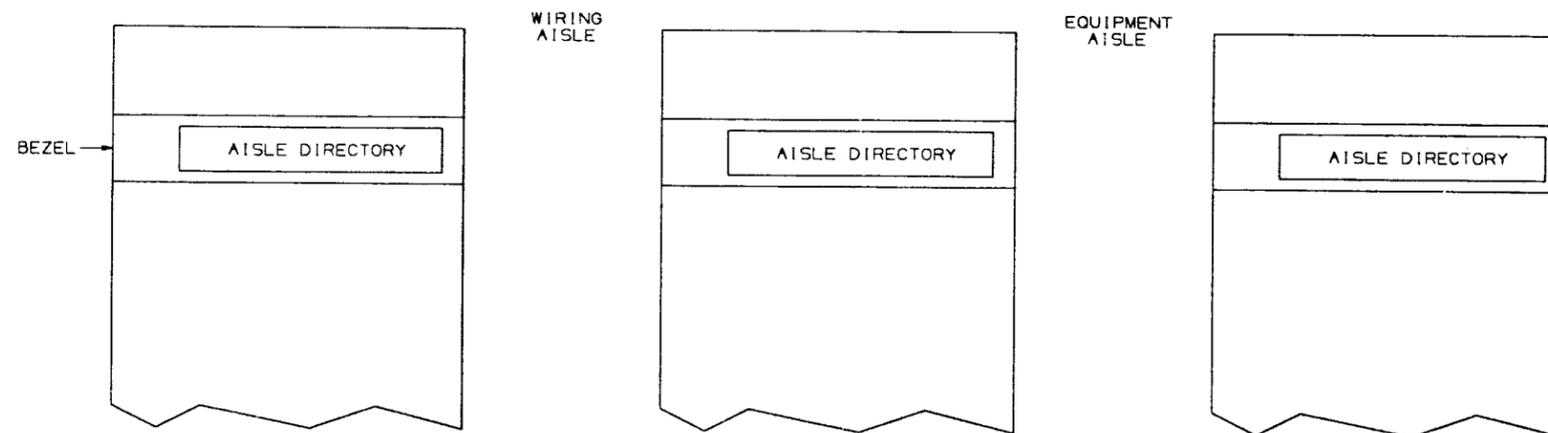

FIG. 1A
13. WHEN FACING END GUARDS, ALL IDENTATIONS FOR AISLE DIRECTORY CARDS ON THE BEZELS SHALL FACE THE SAME DIRECTION ORIENTED TO THE RIGHT HAND SIDE. (SEE FIG. 1A).
15. THE 845313238 LABEL SHALL BE TWO (2) MIL WHITE CAST VINYL, PREMIUM QUALITY FILM WITH AN ACRYLIC BASED PRESSURE SENSITIVE ADHESIVE. MAY BE OBTAINED FROM MODAGRAFICS. 5300 NEWPORT DR., ROLLING MEADOWS, IL 60008.